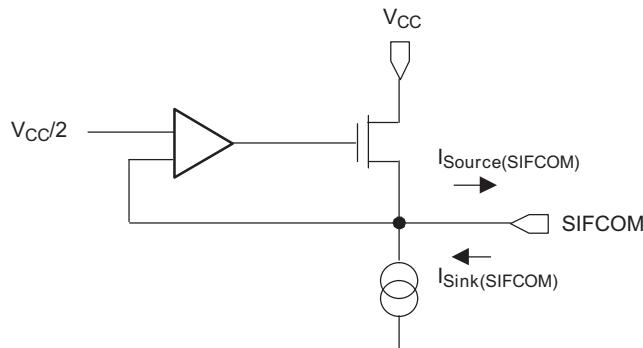

Figure 20. P6.x/SIFCHx Timing, SIFCHx Function Selected
(1) The sink and source currents are a function of the voltage at the pin SIFCOM. The maximum currents are reached if SIFCOM is shorted to GND or V_{CC} . Due to the topology of the output section (see Figure 20) the $V_{CC}/2$ generator can source relatively large currents but can sink only small currents.